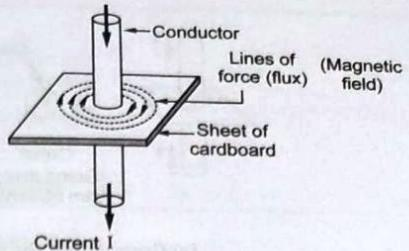

Fig. 1.8.2 Magnetic field due to a straight conductor
- Consider a straight conductor carrying a current, passing through a sheet of cardboard as shown in the Fig. 1.8.2.
- For the current direction shown in the Fig. 1.8.2 i.e. from top to bottom the direction of flux is clockwise around the conductor.
- Conventionally such current carrying conductor is represented by small circle, (top view of conductor shown in the Fig. 1.8.2). Then current through such conductor will either come out of paper or will go into the plane of the paper.